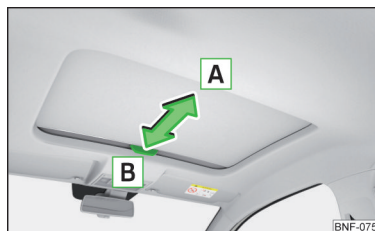

Fig. 36
- To **open**, pull the handle in the direction of arrow **A** » Fig. 36.